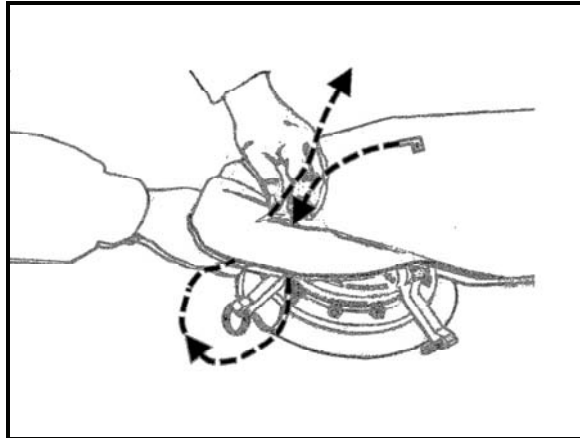

Figure 10. Threading a zip-tie to secure the protective flap.
11. Wrap permanently attached cushioning material around vent fitting, and secure with zip ties (Item 9, WP 0038 00) (Figure 10).